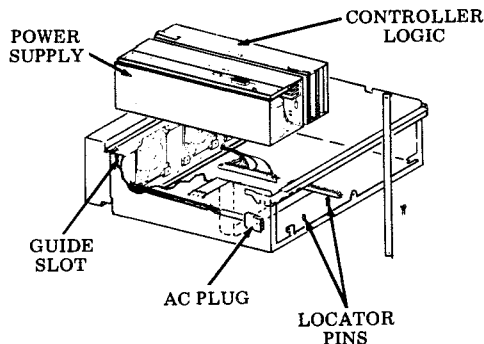

Fig. 60
Step 4 — Locate the controller logic and power supply over their locator pins and seat. Connect ac plug from ventilation assembly (Fig. 60).